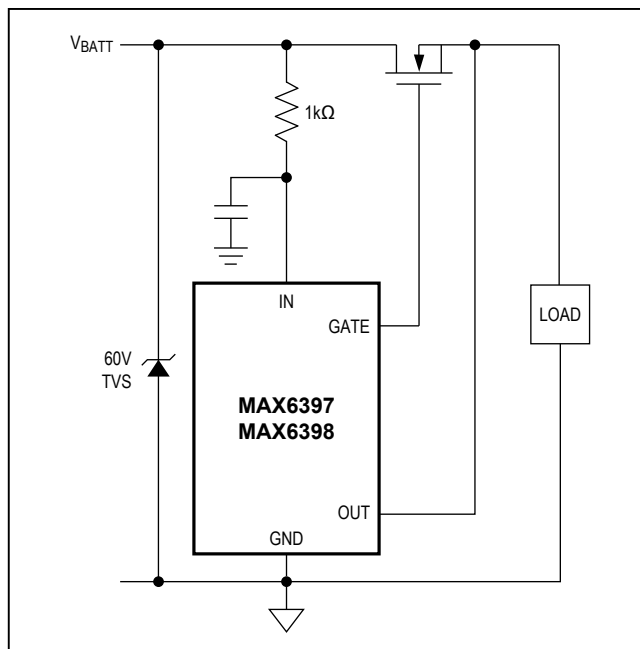

Figure 8. Protecting the MAX6397/MAX6398 Input from High-Voltage Transients
- Add a zener diode or transient voltage suppressor (TVS) rated below the IN absolute maximum rating (Figure 8).